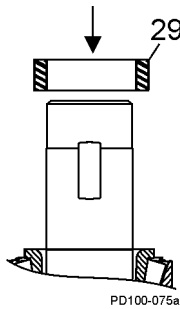

Figure 56 - Install Rear Seal
1. Install the gear spacer on the drive shaft (Figure 56, item 29).